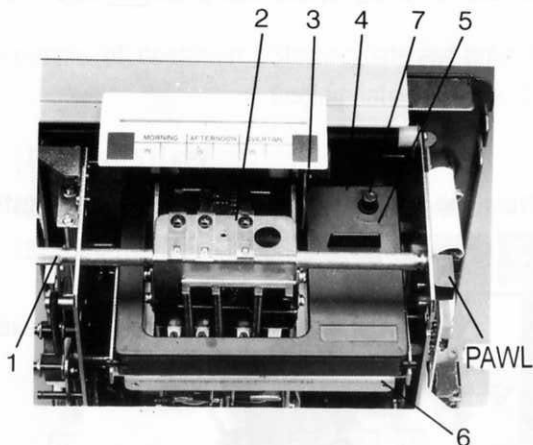

Figure 12
- (1) Pull out the shaft (1) in figure 12 toward left.
- (2) Open the display block by pulling and turning its left-hand side toward you.
- (3) Press leaf spring (3) on the right-hand side of printing block (2) toward the printing block side and disengage knob (5) of ribbon cassette (4) from the leaf spring by slightly pressing the knob toward the right.
- (4) As shown in fig. 12 , remove the old cassette from holder (6) and install a new one.
(5) Tighten the ribbon by turning take-up knob (7) and adjust the ribbon until it comes between the printing wheel and printing head (8) and the cassette is engaged with ribbon feed gear (9) .
* If the cassette cannot be engaged with ribbon feed gear (9), slightly turn take-up knob (7) until the cassette is engaged with the gear.
(6) Return the printing block to the original position, insert the shaft and return the display unit to the original position.